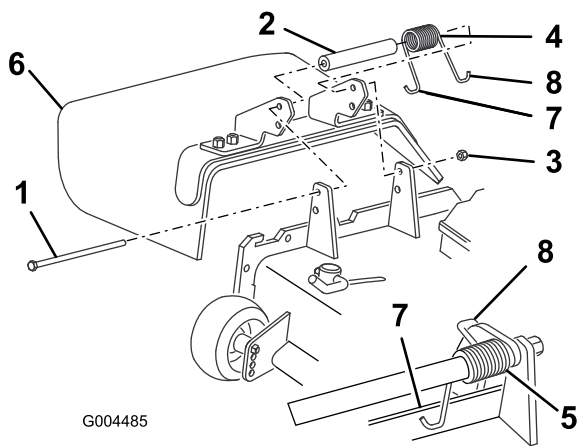

Figure 79
2. Remove the locknut, bolt, spring and spacer holding the deflector to the pivot brackets (Figure 79). Remove damaged or worn grass deflector.
- Place the spacer and spring between the replacement grass deflector brackets (Figure 79). Place the left hand J hook end of the spring behind the deck edge.
Note: Make sure the left hand J hook end of the spring is installed behind the deck edge before installing the bolt as shown in Figure 79.
- Install the bolt and nut. Place the right hand J hook end of the spring around the grass deflector (Figure 79).